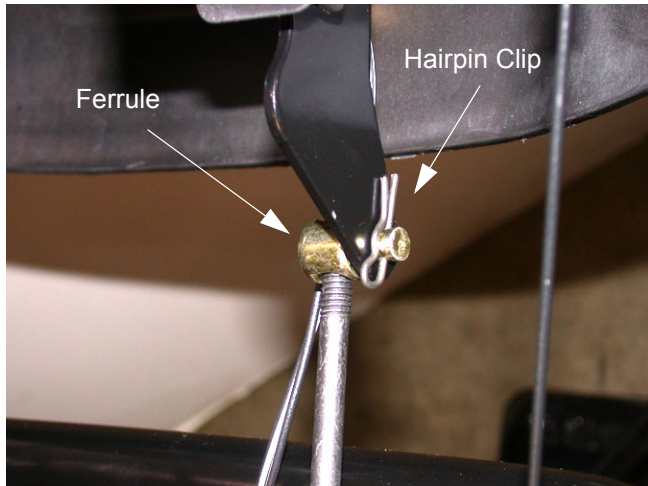

Figure 11
- 7.1. Place the shift lever in the fastest forward speed position and remove the hairpin clip which secures the ferrule to the shift lever. See Figure 11.